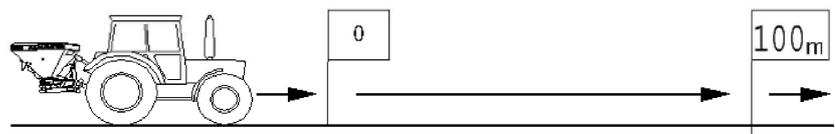

Fig. 3
2. Mark the start and end points (Fig. 3).